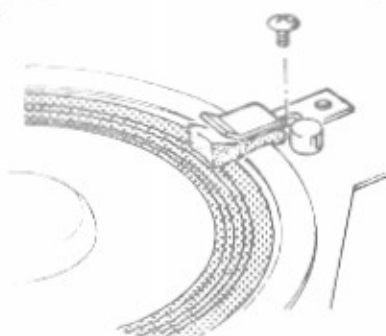

FIGURE 2-2. REMOVING MECHANISM TIE-DOWN BOLTS
1. Remove shipping bolt from rear of cabinet as shown in fig. 2-2.